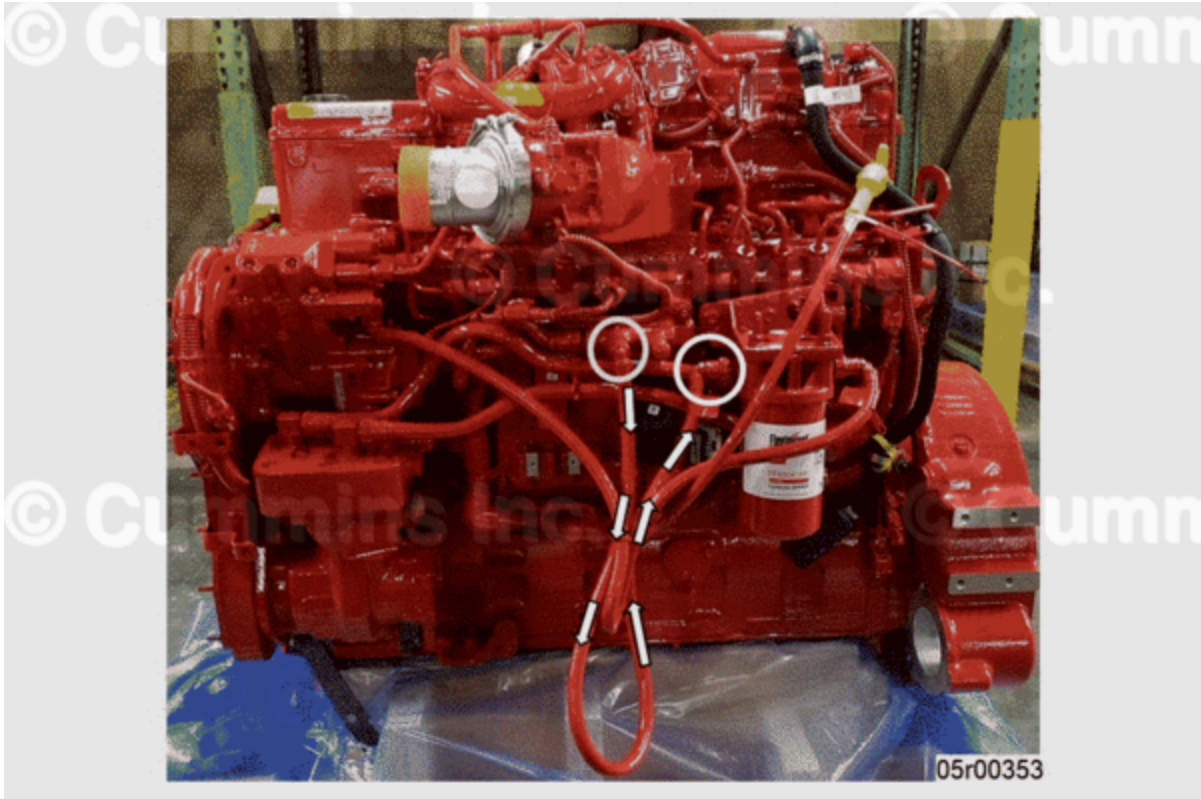

Figure 2, Indication of Fuel Pump Gear Pump Outlet, Fuel Manifold, and Fuel Filter Inlet Quick Connect Fitting Locations.
- Figure 2 below indicates the fuel pump gear pump outlet, fuel manifold, and fuel filter head inlet plumbing.